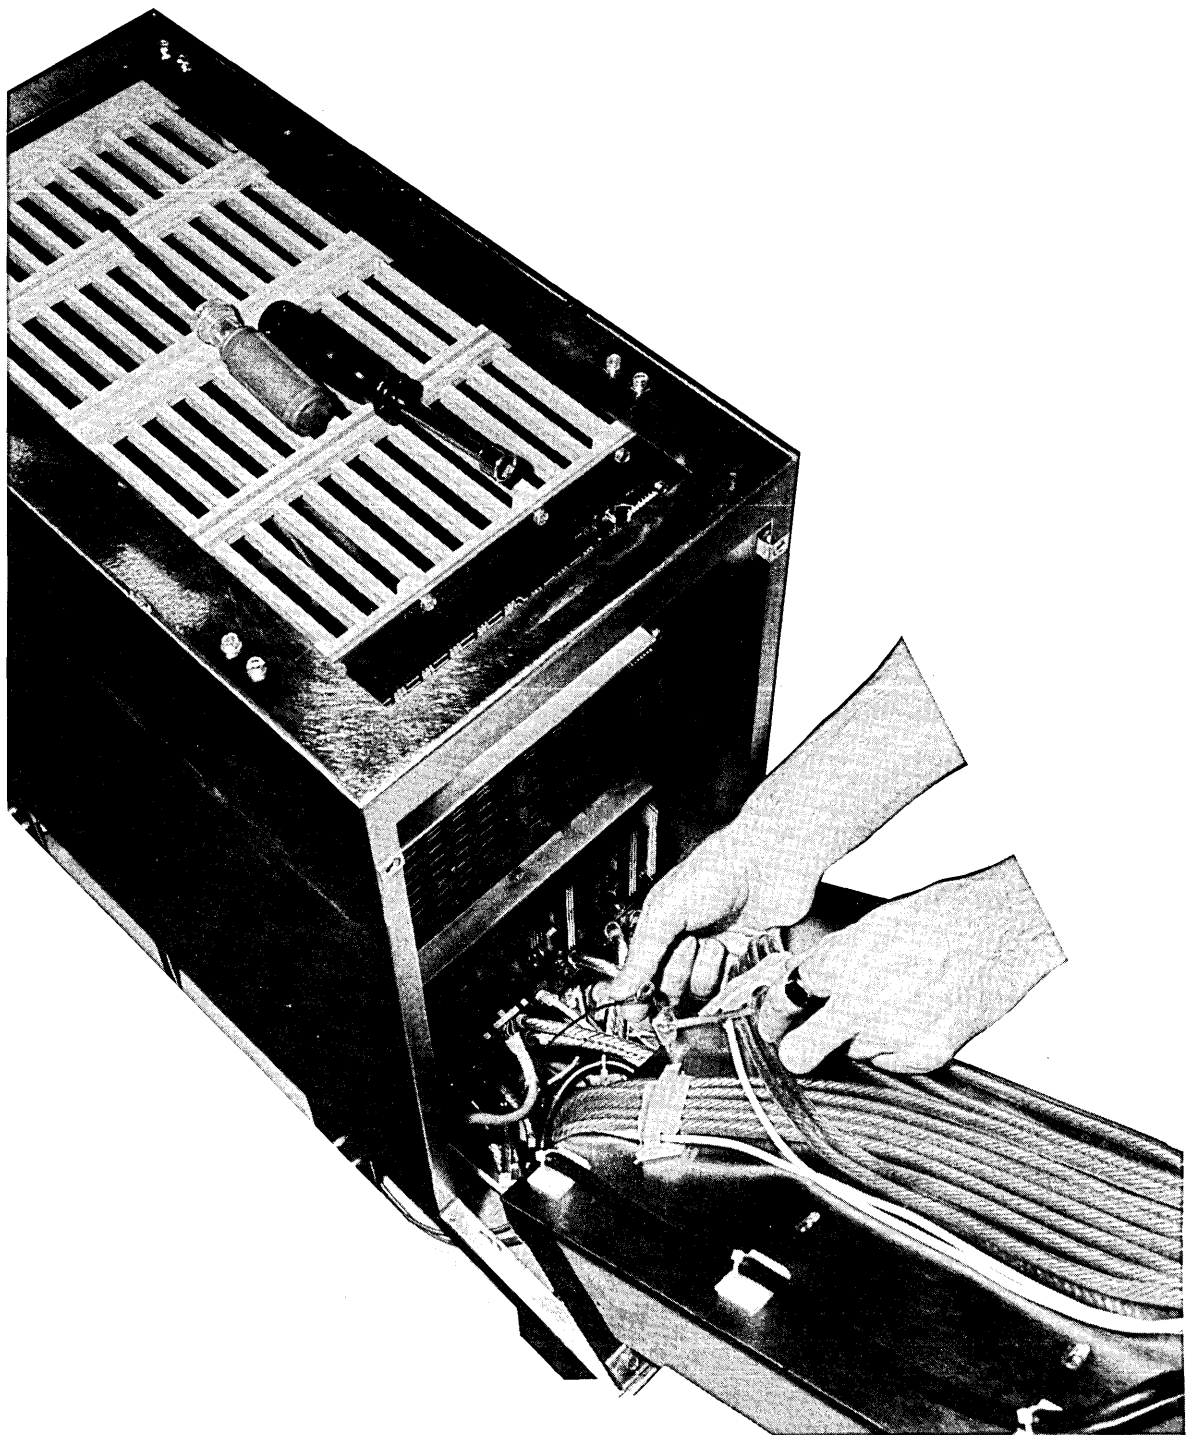

Figure 5-42. Detaching Restraint Cable
10. See figure 5-42. Tilt the power supply down to expose the restraining cable which limits the motion. Raise the supply to remove tension from this cable and detach the cable fastening as shown.